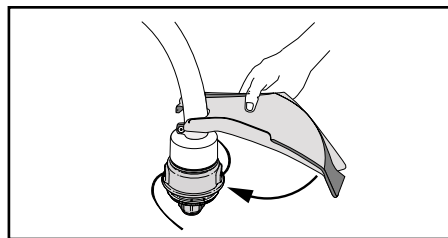

Fig. 4
2. Push the string guard down to the top of the string head assembly and then rotate the string guard to the proper position (Fig. 4).